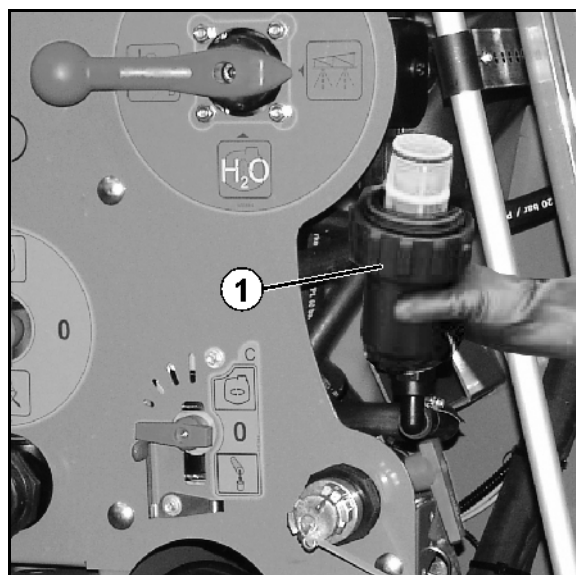

Fig. 119
2. Remove the pressure filter (Fig. 119/1) and clean with water.